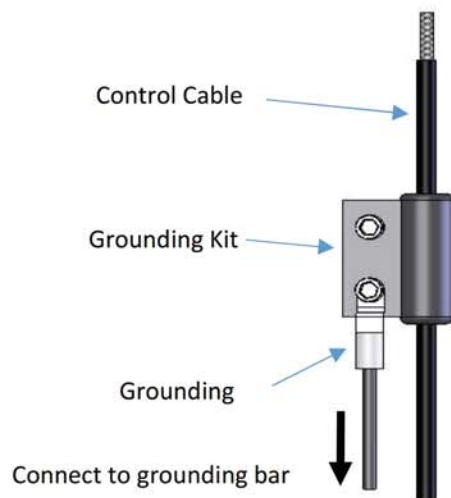

Figure 18
c) Control cables metal sheath attach to grounding kit as shown in Figure 18.